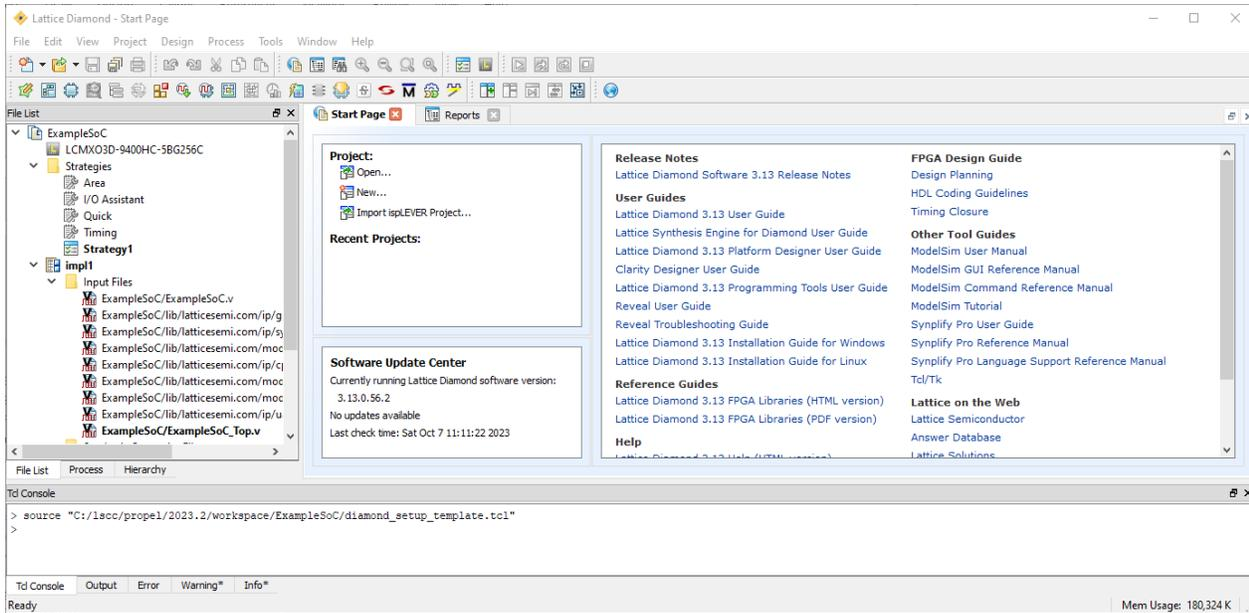
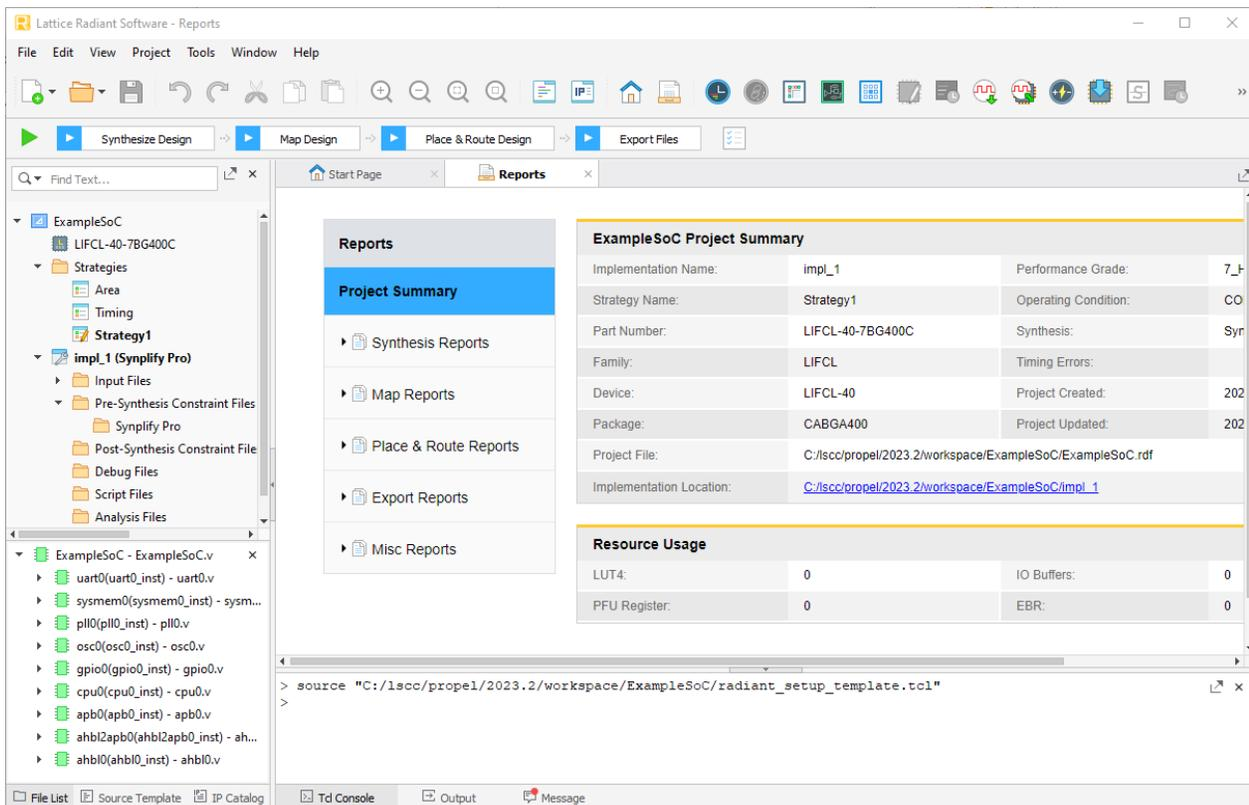

Figure 3.13. Diamond Project
Figure 3.14. Radiant Project
4. The Diamond/Radiant project for SoC is generated at background and is launched (Figure 3.13/Figure 3.14).